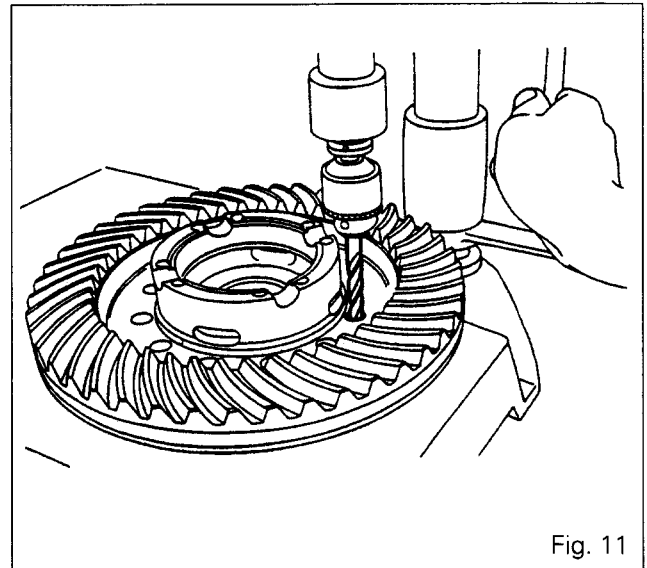

Fig. 11
50. Make a centre mark in the centre of each rivet (24) (crownwheel teeth side).
51. Drill the rivets to a depth of 10 mm with a 5 mm diameter drill (Fig. 11).